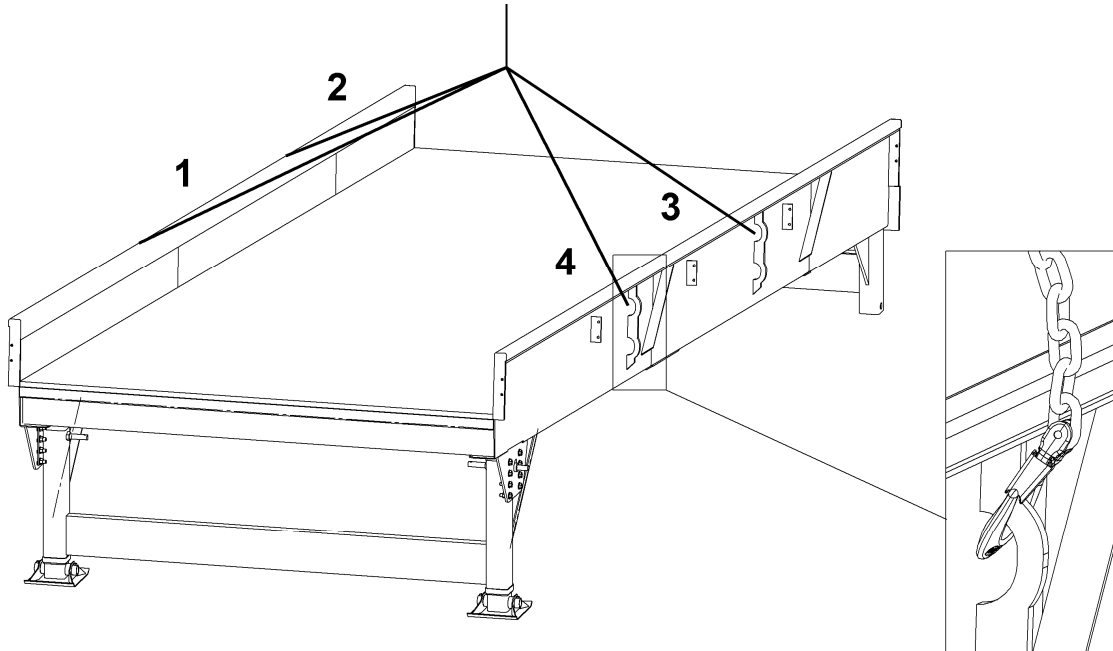

Figure 2a: Offloading with a Crane
- a. **CRANE / TELEHANDLER WITH LIFTING HOOK (PREFERRED):** Attach 6ft straps with clevis (preferred) or chains to the four lift points located on the sides of the upper ramp (Figure 2a). Slowly lift the ramp from the trailer, move it to the desired location, and carefully place it on the ground. Repeat for the lower ramp. **NOTE: Figure 2a shows the lifting of the upper ramp. The lower ramp is lifted in a similar manner.**